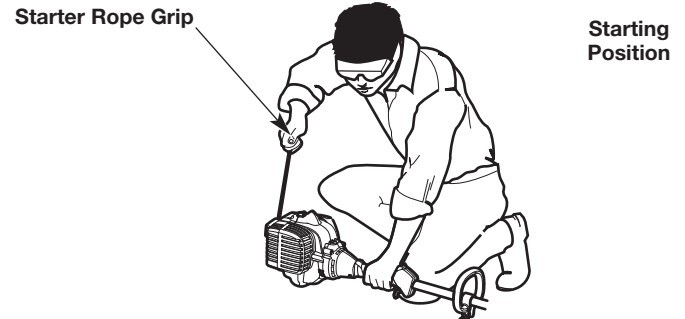

Fig. 9
**WARNING:** Avoid accidentally starting the unit. To avoid serious injury, the operator and the unit must be in a stable position when pulling the starter rope (Fig. 9).
3. Crouch in the starting position (Fig. 9).
4. Pull the starter rope with a controlled and steady motion until the unit starts (Fig. 9).